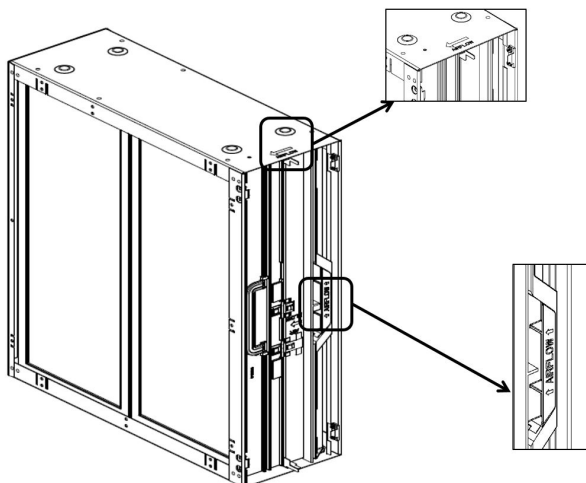

Figure 33 Airflow Direction
- Replace the PRE-FILTER into the air cleaner. Ensure that the "AIRFLOW indicator arrow" on the PREFILTER is pointing in the same direction as the "AIRFLOW indicator arrow" on the air cleaner cabinet as shown in Figure 33.